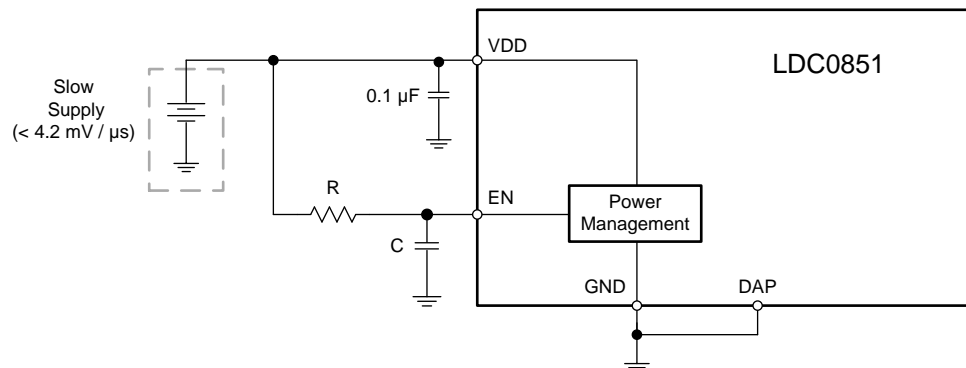

Figure 33. Supply Connections for Slow Ramp Rate
For supply ramp rates slower than 4.2 mV/ μs , an RC low pass filter must be added to the enable input (EN) as shown in Figure 33. Alternatively, the EN pin may be tied to a nanotimer or microcontroller to wake up the LDC0851 after VDD has ramped to its nominal value.